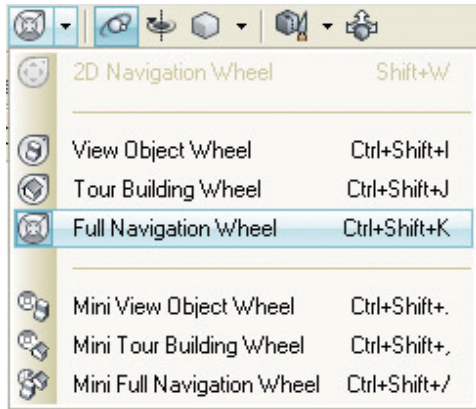

Figure 3
1. Click the pull-down arrow next to the steering wheel button on the main toolbar and select Full Navigation Wheel from the menu. (Figure 3)